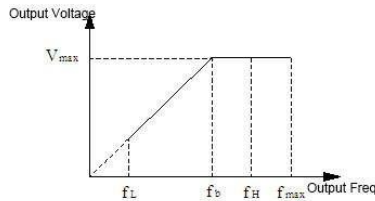

Figure F0-1 Voltage and Frequency
The maximum output frequency is highest allowed frequency for output, and the reference of acc./dec. time setting, as fmax showed in the following figure; basic running frequency is the minimum frequency when output highest voltage, usually the rated frequency of motor, as fb showed in the following figure; the maximum output voltage Vmax is the output voltage when output basic running frequency, usually rated voltage of the motor, as Vmax showed in the following figure; fH, fL are defined as upper limit frequency and lower limit frequency separately, as showed in figure F0-1:
4. The maximum output frequency, upper limit frequency and lower limit frequency have relations as showed in figure F0-1, please notice the numerical value order when setting.